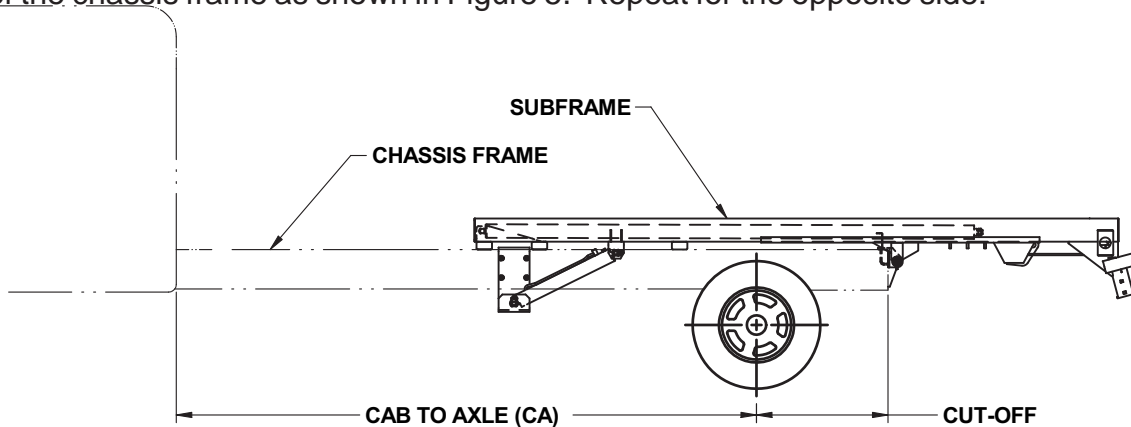

Figure 2 - Subframe Installation
1. Set the subframe on the chassis frame as shown in Figure 2.